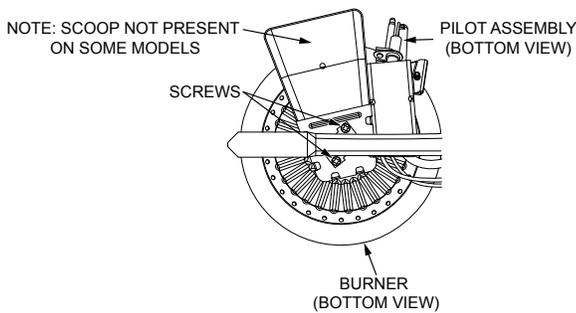

FIGURE 41.
1. Take off the burner by removing the two (2) screws located underneath the burner.
2. Check the burner to see if it is dirty or clogged. The burner may be cleaned with soap and hot water (Figure 41).
2. Remove the burner to access the pilot/thermopile assembly. Remove and keep the screws securing the burner to the manifold (Figure 41). **IMPORTANT:** DO NOT remove the orifice.
8. Using the pilot screw removed earlier, attach the new pilot/thermopile assembly. Reattach the burner to the manifold using the screws removed earlier. **NOTE:** If the burner has a scoop, make sure that the scoop is oriented to the pilot side of the manifold tube (Figure 41).